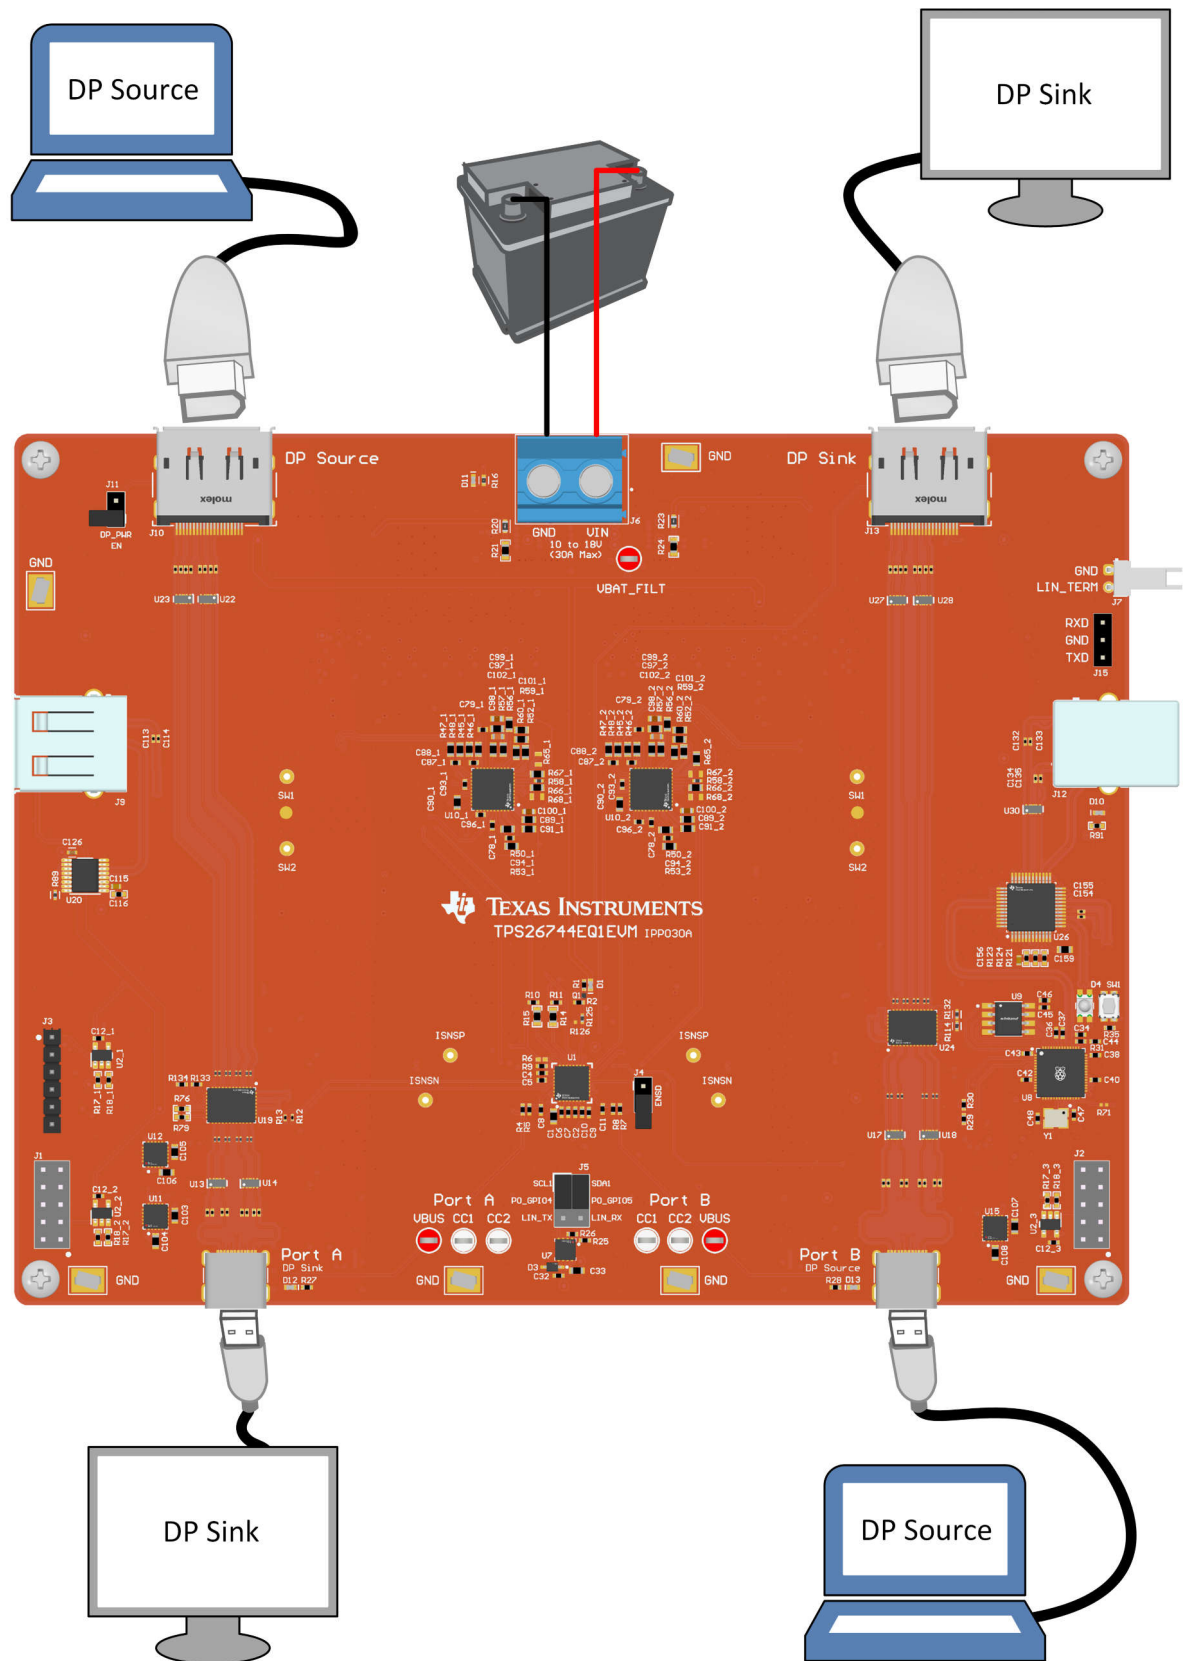
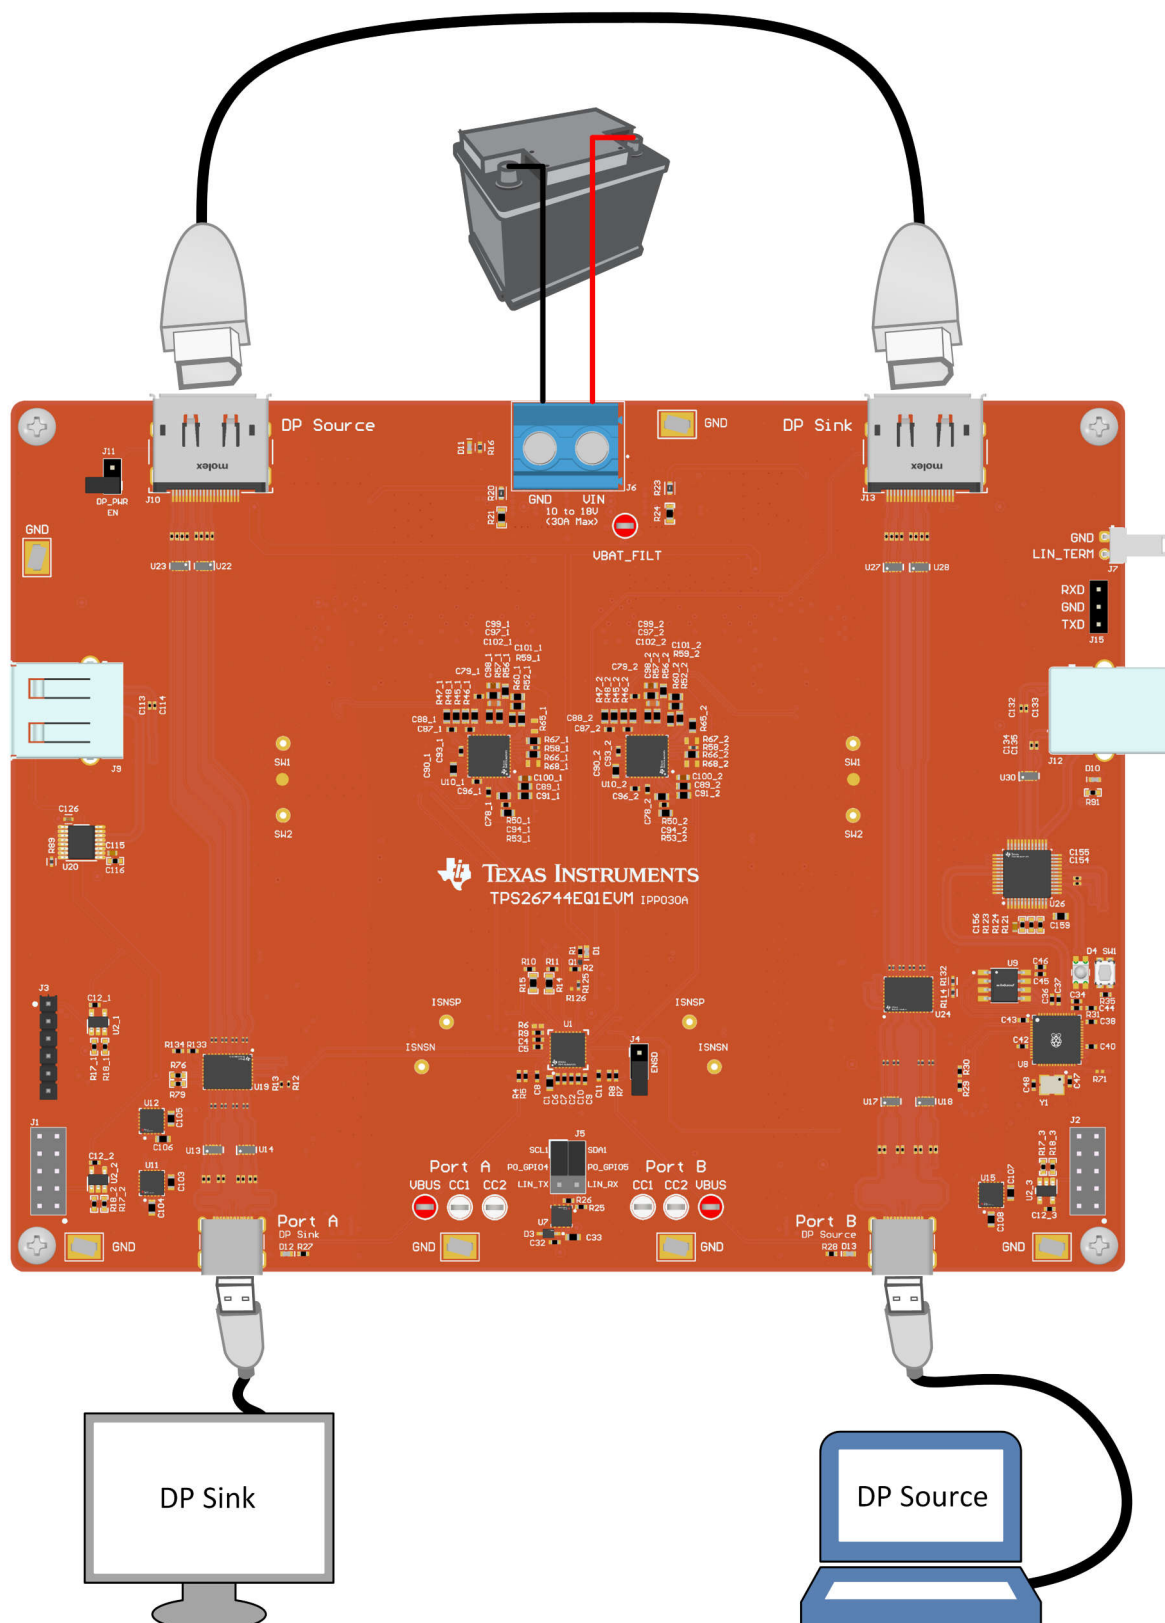

Figure 2-4. DisplayPort Connections
Figure 2-5. DisplayPort Connections (Loopback)
2. Port A and Port B Type-C receptacles are provided to connect to Power Delivery or Type-C sink devices or test equipment as well as DisplayPort source or sink devices, as shown in Figure 2-4.
3. DisplayPort receptacles are provided to connect to DisplayPort source or sink devices, as shown in Figure 2-4.
When evaluating DisplayPort Alt Mode, connect the DisplayPort sink and source devices to the EVM as shown in Figure 2-4 or Figure 2-5.